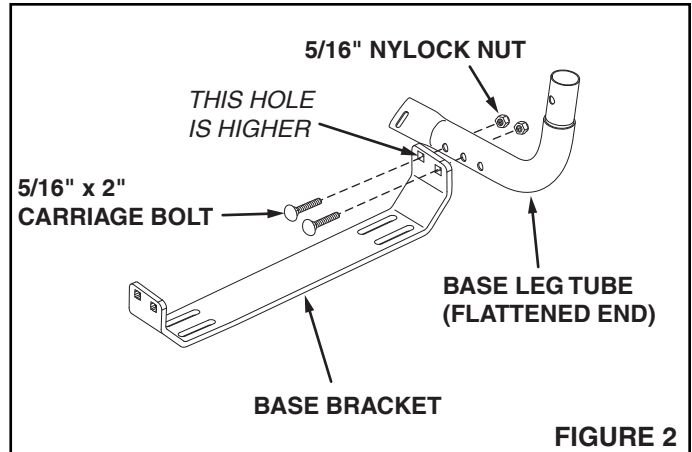

FIGURE 2
STEP 1: (Figure 2)
STEP 2: (Figure 2)